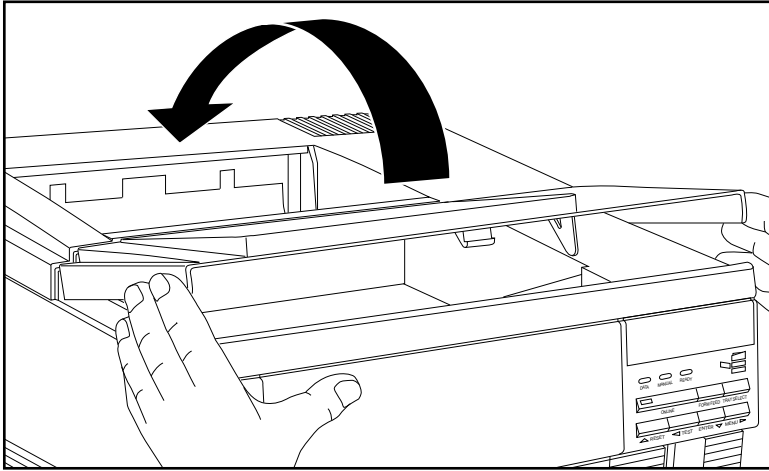

Fig. 6.6 Open the Top Cover
1. Open the top cover by pressing in on the raised finger grips on each side and lifting up and back approximately 180° (fig. 6.6).